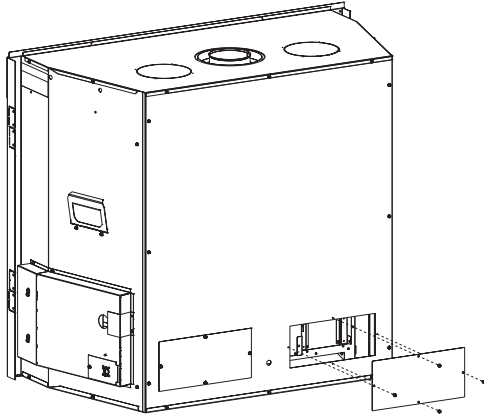

Figure 2
1. Remove Blower Access Panels. **See Figure 2.**